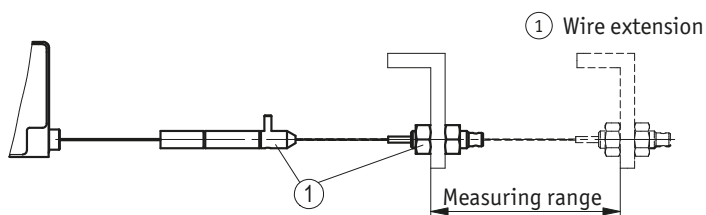
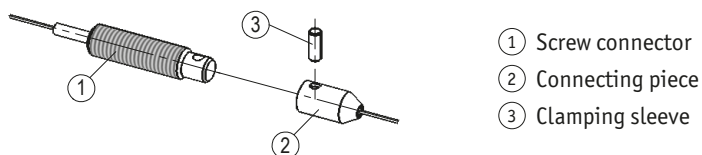

Fig. 10: Measuring range wire extension
Fig. 11: Mounting wire extension
8.1 Wire extension (Fig. 10, Fig. 11)
A wire extension does not extend the measuring range (see Fig. 10).
Mounting (Fig. 11)